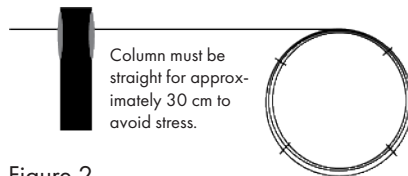

Figure 2
6. Continue to press the *Blade Release Button (C)*. Lock the column into the Column Cutter by turning the *Locking Wheel (A)* clockwise until snug.
7. Release the *Blade Release Button (C)*. The diamond cutting blade will now be positioned at the surface of the fused-silica column.
8. Position the column in a straight line with no stress on the column, as shown in Figure 2. The column must remain in this position during the cutting process.